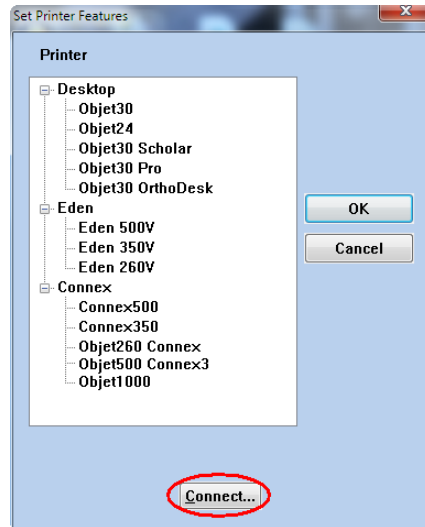

Figure 5-86: Connecting to a printer (A)
2. In the *Set Printer* dialog box, click *Connect* (see figure 5-86).